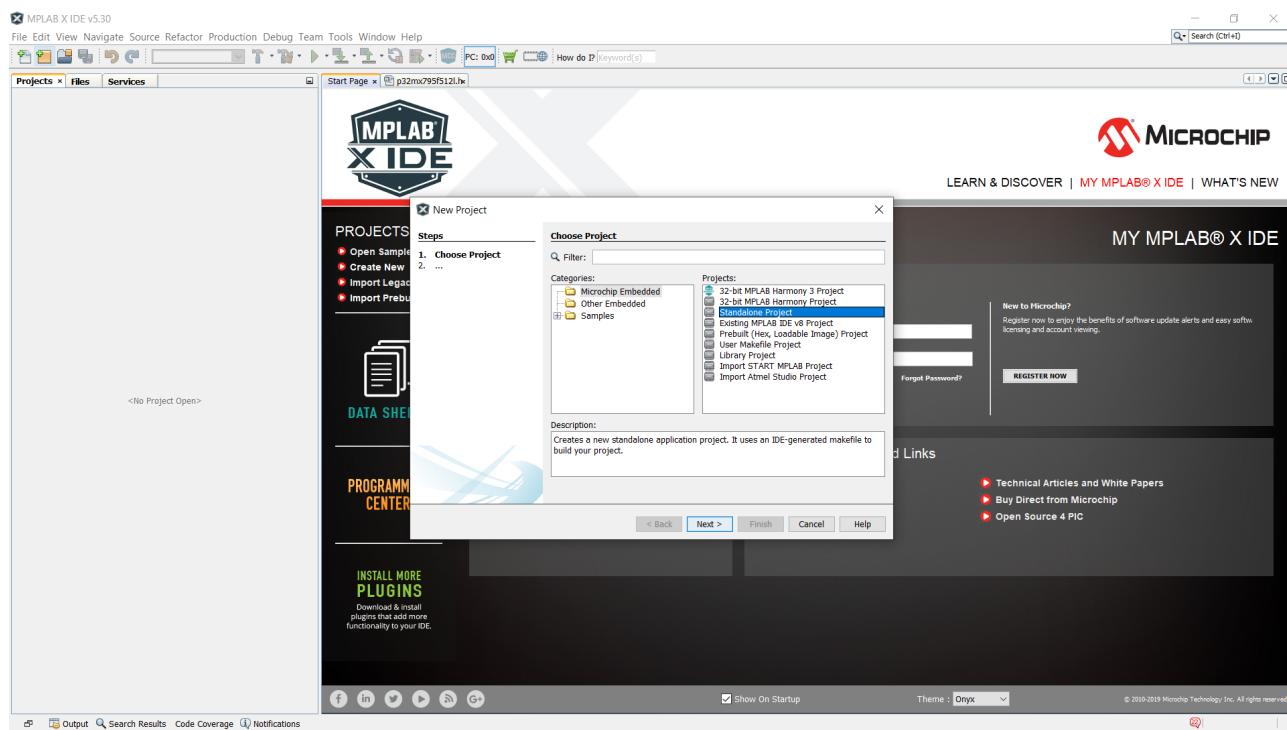

Fig. 5.1
3. Select **Microchip Embedded** under categories and **Standalone Project**. Click Next. (**Refer Fig. 5.1**)